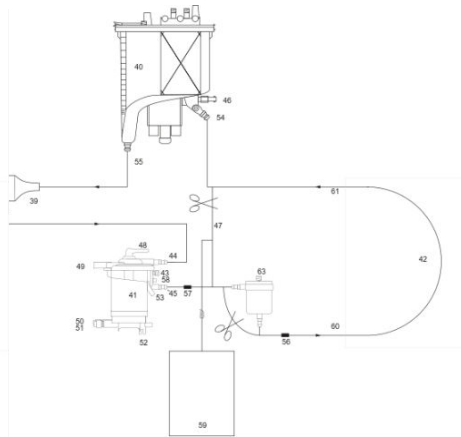

Figure 16: Clamp on bypass
- Clamp bypass and open the arterial line at the same time to prime the arterial line (figure 16).